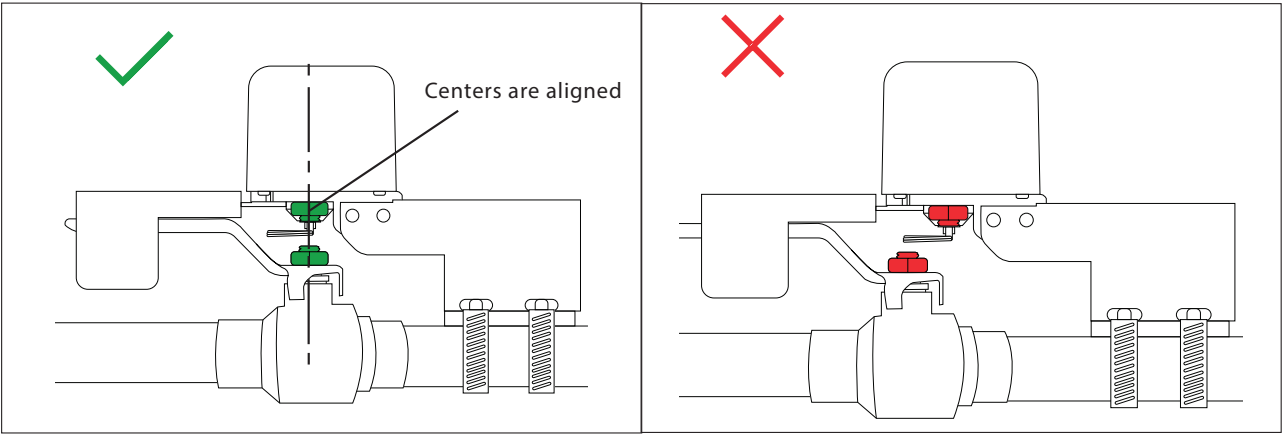

Figure 6 - Proper Alignment of the Water Main Shut-Off
**A:** Check to make sure the bolts on the Shut-Off and your valve are aligned properly (see "Figure 6 - Proper Alignment of the Water Main Shut-Off" on page 11.) If you are still having issues, please visit [www.domeha.com/support](http://www.domeha.com/support)